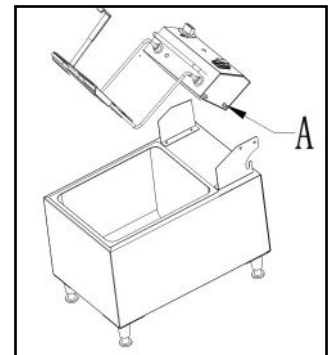
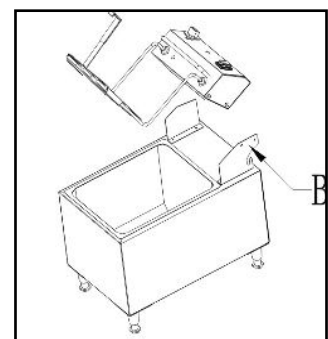

Fig. 8-2
Fig. 8-3
1. Make sure the oil pan is placed into the fryer body evenly, and lower the element into the frying pot bay following the two simple steps (Fig. 8-2 and Fig. 8-3). Points A, cradles and guides the head to the fryer body.